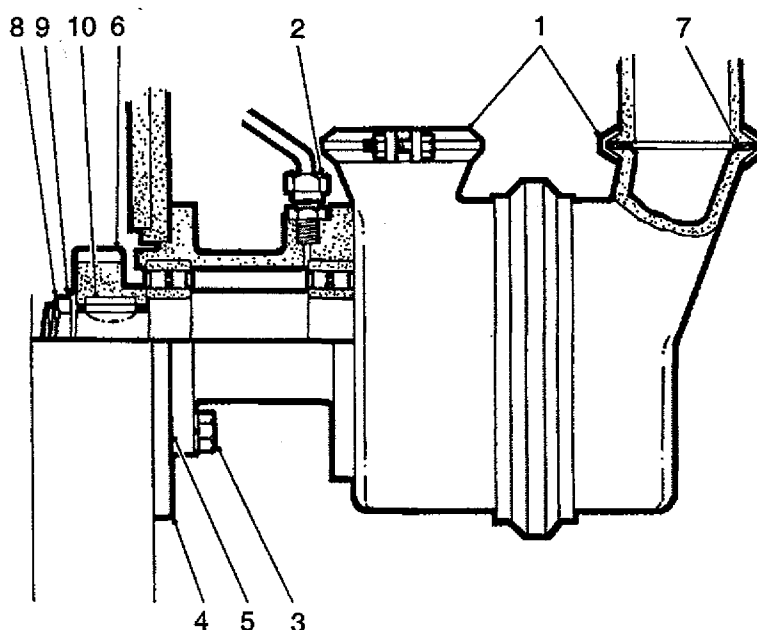

Fig. 4E
The raw water pump is mounted via an adaptor plate on the rear of the timing gear cover, and is driven directly from the engine gear train, via a gear fixed to the pump shaft. The pump shaft support bearings are lubricated via an engine lubricated oil supply pipe (see Fig. 4E).
Isolate the raw water supply and drain the water from the tap in the external pipework. Remove the 'V' band clamps (1) securing the inlet and outlet water pipes to the pump. Disconnect the lubricating oil supply pipe at the union (2) fitted in the pump. This pipe should then be sealed to prevent oil leakage. Remove the four screws (3) securing the pump to the engine adaptor plate (4), and carefully withdraw the pump. Clean off any jointing material remaining on the adaptor plate and then seal or cover the aperture (see Fig. 4E).